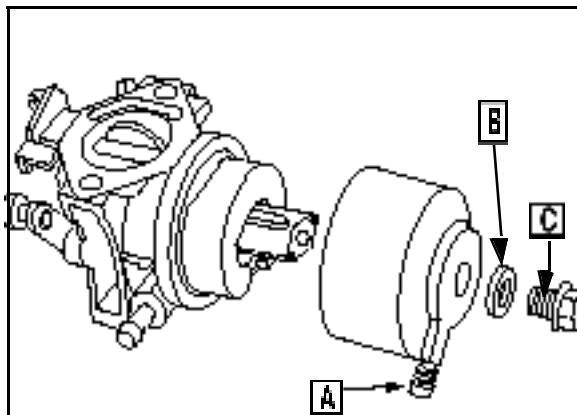

Fig. 95
1. Remove fuel bowl mounting screw (C) and washer (B). Remove the fuel bowl (A) (Fig. 95).